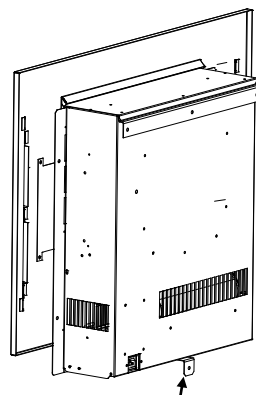

Fig 3
8. To fix the fire permanently to the wall a bracket and a suitable fixing screw is supplied with the fire for this purpose; the bracket should be fitted as shown by Fig 3. The fire can now be fixed to the wall using the same fixings as used for the Top hanger bracket.